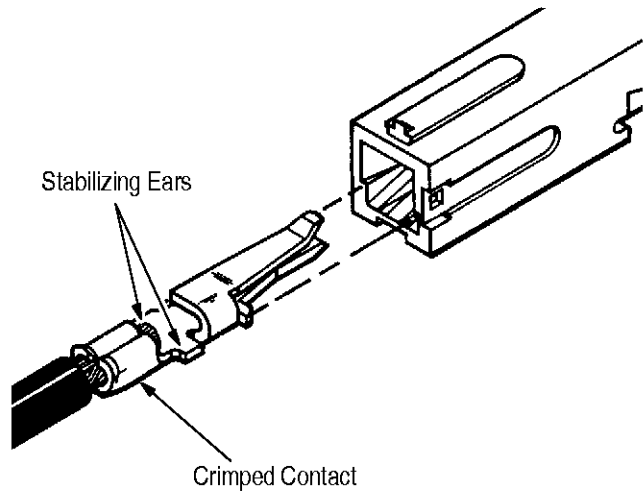

Figure 3
1. Orient crimped contact so that the stabilizing ears align with housing slots as shown in Figure 3.